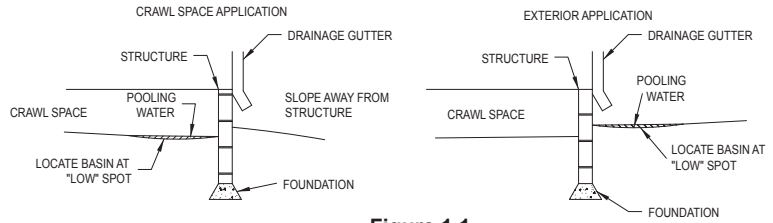

Figure 1.1
- 1.1) Select a location that is a "low spot" or an area that naturally collects water. Refer to Figure 1.1. Grade crawl space so water will drain toward pit. Place plastic sheeting on ground.